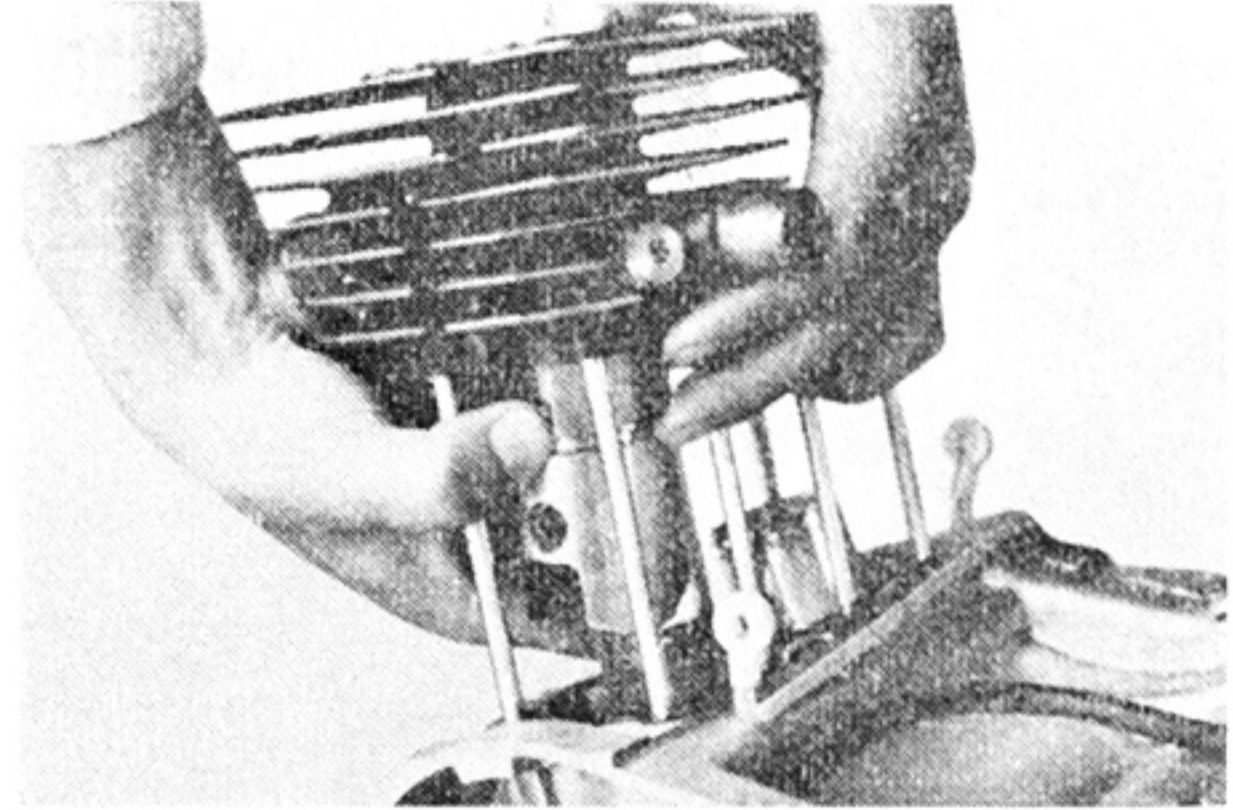

Fig. 3-3-5
- b. When installing the cylinder over the piston, squeeze the piston rings into their grooves (their end gaps should close on the knock pin) so they will not catch and break on the bottom of the cylinder. (Fig. 3-3-5)